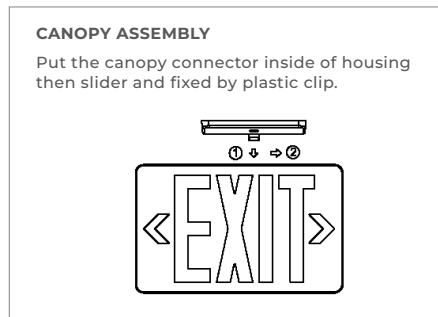

FIGURE 2
- D) Remove the mounting hole cover on the top and side of the unit, assemble the canopy (see Fig 2).